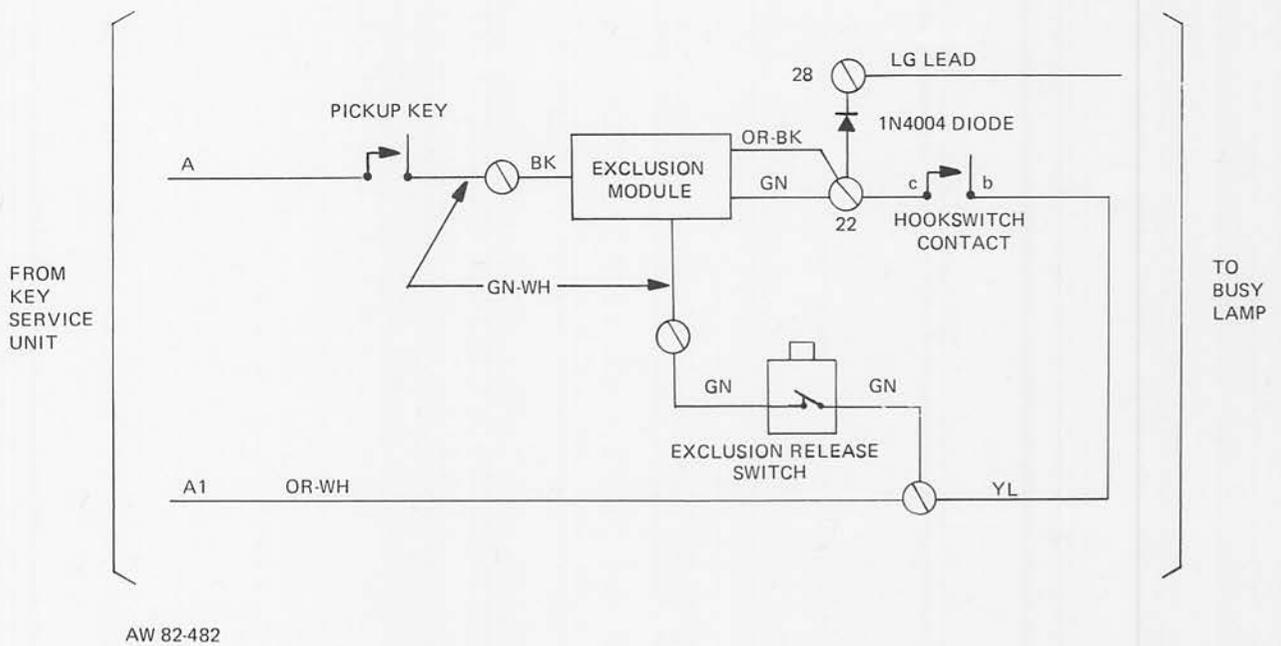

Figure 4: Busy Lamp Connections For 10-Button Telephones with Feature Code 76
10.02 Modifications for the 10-button wall telephones with feature code 76 should be as follows: (Refer to Figure 4.)
- Connect one 1N4004 diode from terminal 22 to terminal 28 on telephone terminal board as shown in Figure 4.